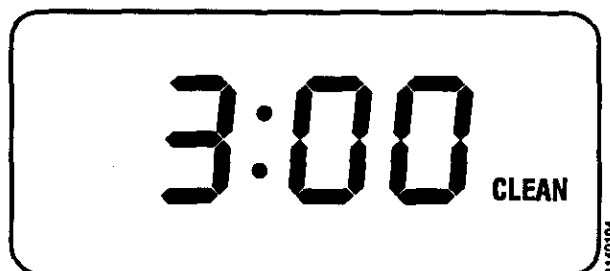

Figure 14.
6. Set the Function Selector to **Self Clean**. The display will change to say **SET - CLEAN - TIME** with an initial setting of 3 hours. If the plus (+) or minus (-) buttons are not depressed within a few seconds the display will revert to **CLEAN** function, as shown in Figure 14.